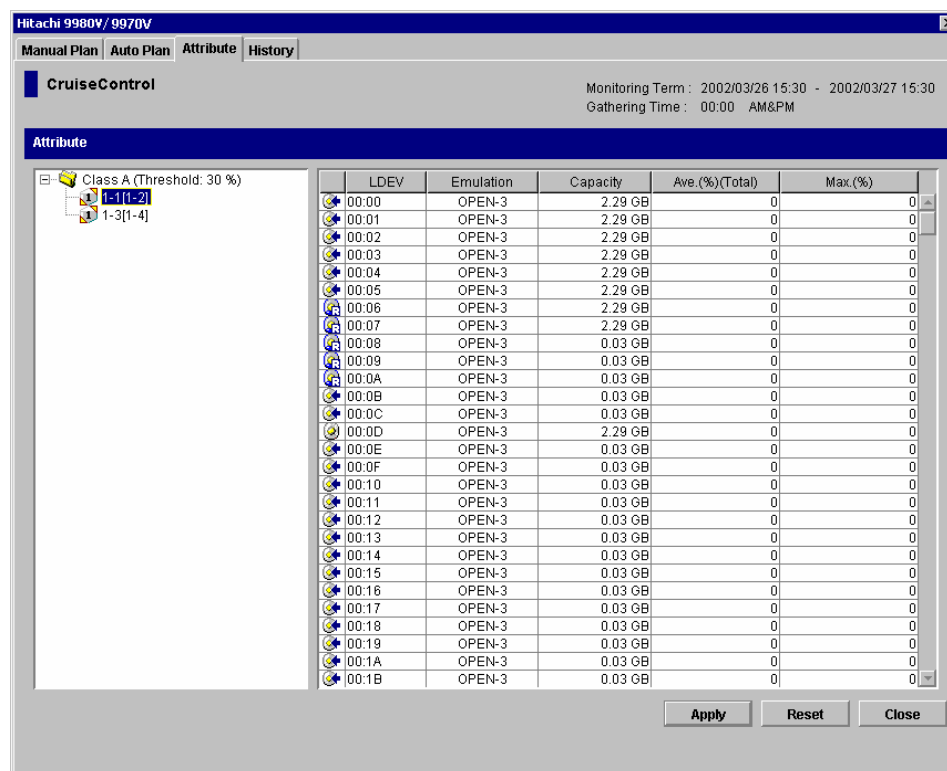

Figure 5.1 The Attribute Tab
2. From the CruiseControl™ panel, click the **Attribute** tab (see Figure 5.1).